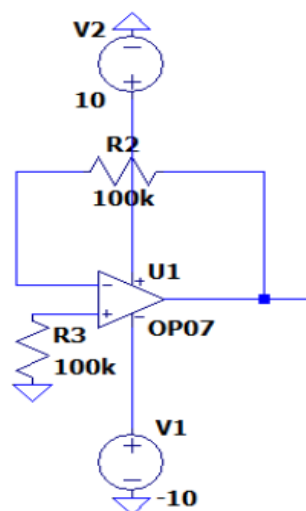

Figure 2 LtSpice
- ✓ We assembled the circuit as shown in Figure 2. We set the power supplies to $\pm 10\text{V}$. We measured VC for $R_2=R_3=1\text{M}\Omega$ (Resistances must be matched within 2% tolerance). Next, we shorted R_3 and measure VC and since R_3 is short add $R_1=1\text{k}\Omega$ from negative input to ground and we measured VC. We put your measurement results in Table 1.